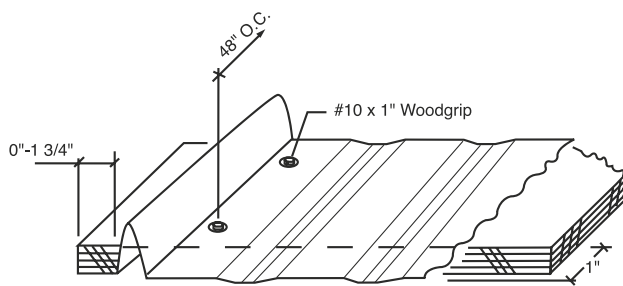

Figure 2
3. Check panel alignment. If panel is properly aligned, attach rake edge to roof with a 1" painted neoprene wood grip spaced at 48" on center. See Figure 2. Then fasten the panel along the male edge fastening flange with 1" low profile pancake head. Special care has to be taken not to overdrive the screws in the male edge fastening flange. The screw flange is slotted to allow for slight panel movement during normal expansion and contraction. To avoid panel distortion and to allow for maximum expansion and contraction of the panel, the screws should be snug that the flange deflects under the screw head. To allow for movement of the panel towards the eave or ridge, place the fastener in the middle of the 5/8" slot. See fastener spacing section on page 12.1.